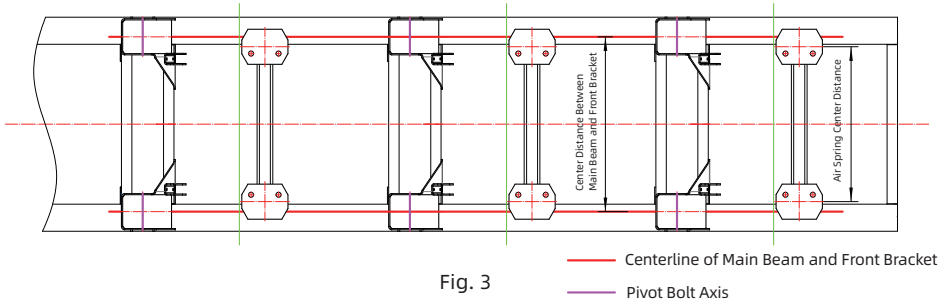

Fig. 3
(4) Place and tack weld all rear brackets in place(Fig. 3).